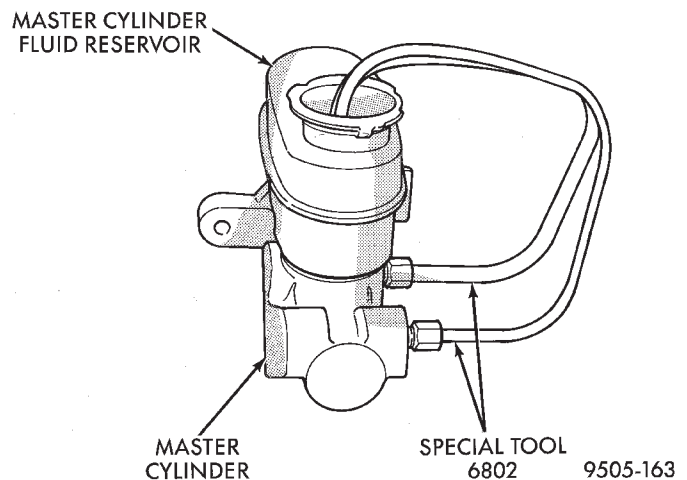
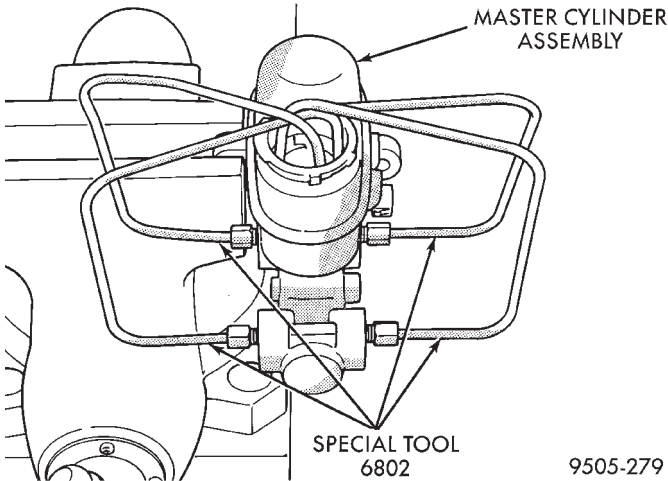

Fig. 85 Bleeding Tubes Attached to ABS Master Cylinder
Fig. 86 Bleeding Tubes Attached to Non-ABS Master Cylinder
(1) Clamp the master cylinder in a vise. Attach Bleeding Tubes, Special Tool 6802 to the master cylinder outlet ports (Fig. 85) (Fig. 86). **Position the bleeding tubes so outlets of the tubes will be below the surface of the brake fluid when reservoir is filled to the proper level.**